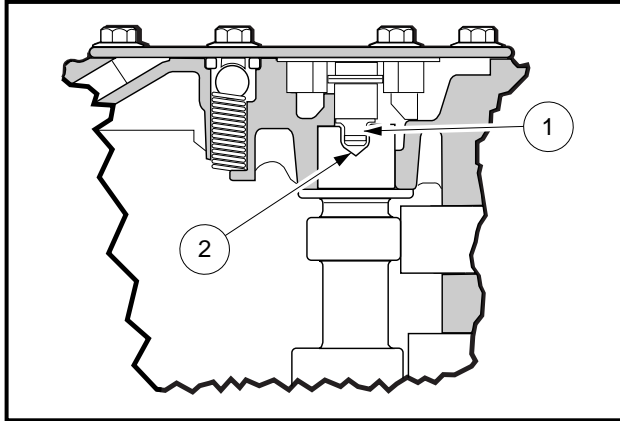

Figure 13-101 Proper Seating of Tang into Camshaft Slot
- When installing the camshaft, make sure that the tang (1) on the oil pump rotor seats in the slot (2) in end of the camshaft (**Figure 13-101, Page 13-46**). If the oil pump tang is not seated in the slot in the camshaft, serious engine damage will result.